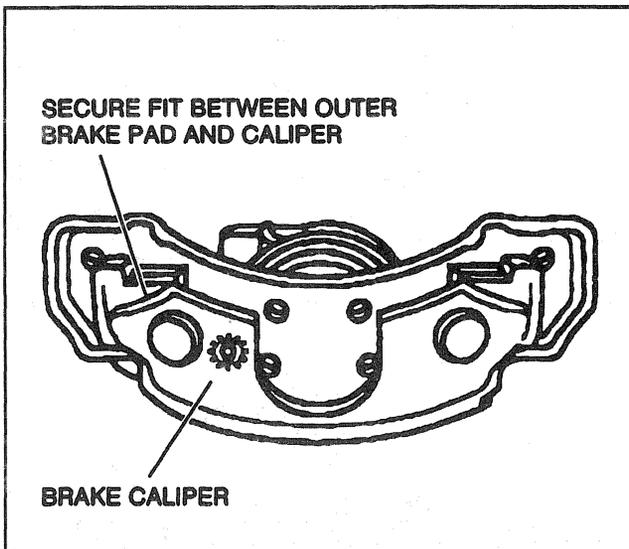

Figure 22—Outer Brake Pad Secured To Callper
3. Compress the vise as necessary to obtain a secure fit between the outer brake pad and the caliper (Figure 22).